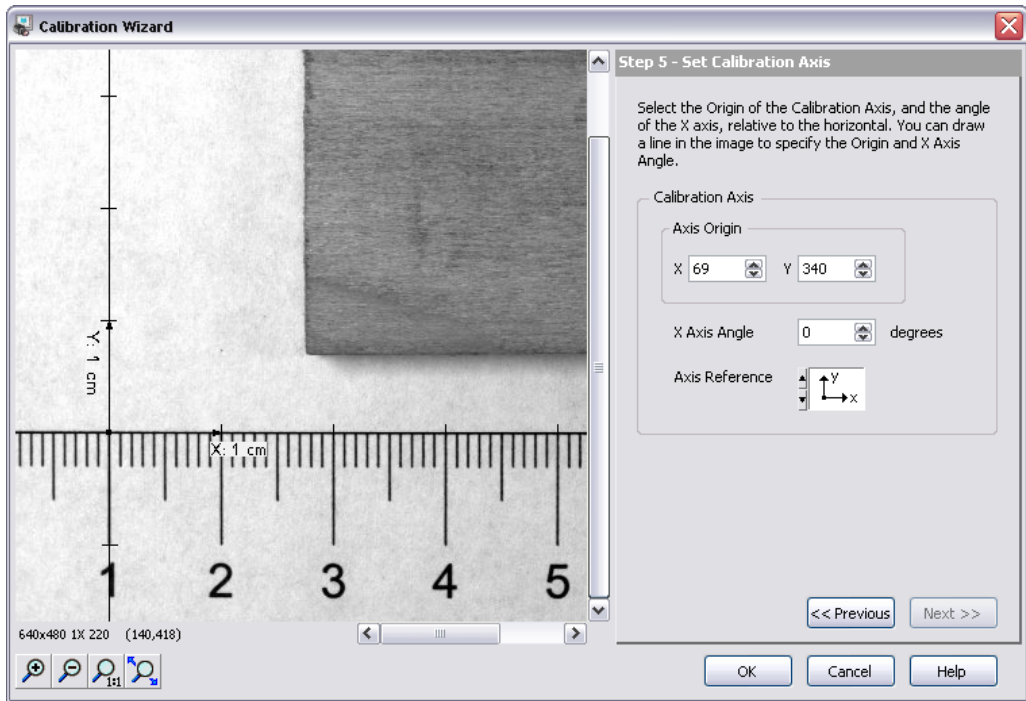

Figure 5-2. Defining the Origin and Angle of the Calibration Axis
19. In the **Set Calibration Axis** step, click the 1 cm marking to define it as the origin of the calibration axis. Draw a line horizontally and to the right along the edge of the ruler to define the angle of the calibration axis, as shown in Figure 5-2.